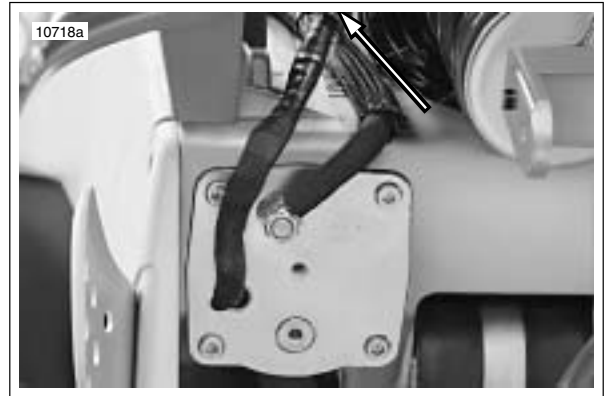

Figure 4-97. Fuel Pump connector [86] (swingarm removed for illustration)
- a. See Figure 4-97. Disconnect the 4-place fuel pump connector [86]. Connector is located on the left side, above the fuel pump.